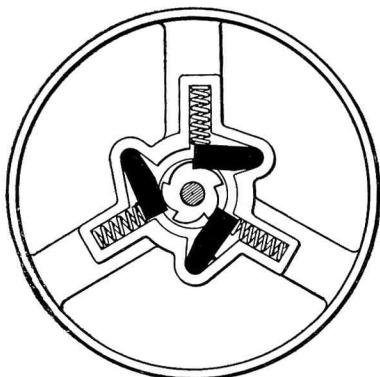

Fig. 7. Pawls in Position.
**The Ratchet and Pawl Mechanism.** The ground rolls drive the ratchet gear by two independent sets of ratchet pawls, so arranged that both sets of pawls drive from the same teeth on the gear, yet each roll is free to rotate without the other. In other words, the rolls have a differential action. The pawls and springs are contained in the hub castings of the ground rolls, and reference to Fig. 7 will show their construction.
be projecting upwards. Place the right-hand ground roller (11) over the spindle, and insert the pawls and springs as seen in Fig. 7. Without attempting to put the second, or left-hand, roller in the machine, insert the pawls and springs, and screw on the retaining washer. The pawls will then be projecting into the centre hole, and it obviously will be necessary to hold them back before the roller may be inverted and placed over the spindle with the pawls on their ratchet.